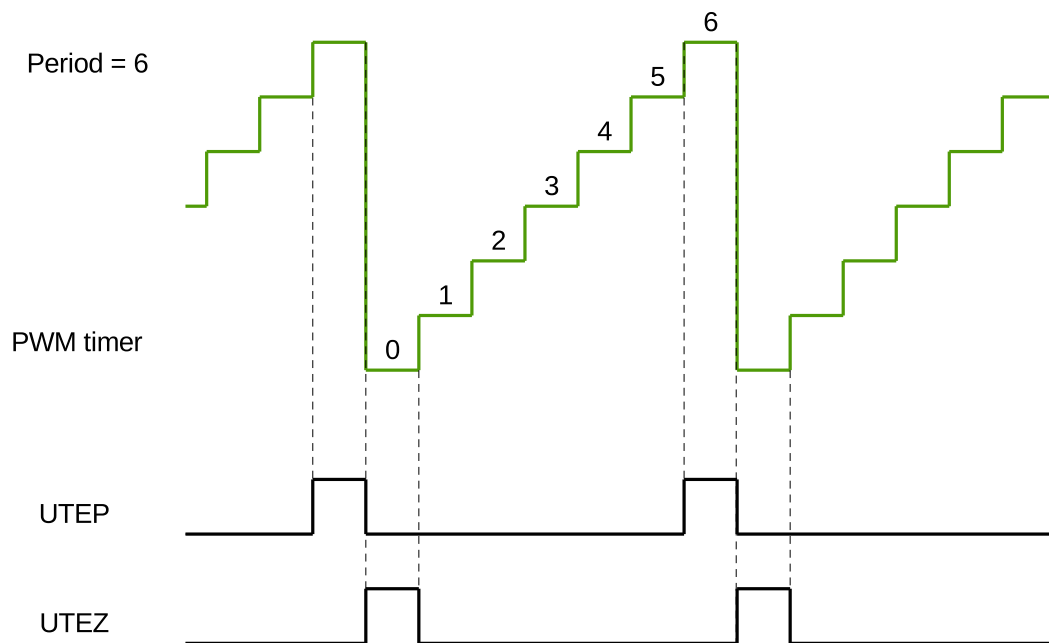

Figure 33-12. UTEP and UTEZ Generation in Count-Up Mode
Figure 33-12 to 33-14 show the timing waveforms of U/DTEP and U/DTEZ.
1. UTEP and UTEZ do not happen simultaneously. When the PWM timer is in count-up mode, UTEP will always happen one cycle earlier than UTEZ, as demonstrated in Figure 33-12, so their action on PWM signals will not interrupt each other. When the PWM timer is in count-up-down mode, UTEP will not occur.